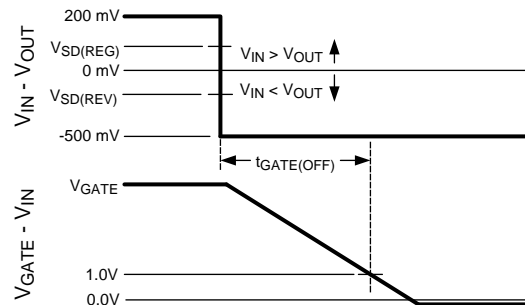

Figure 4. Gate Off Timing for Forward to Reverse Transition
(1) Measurement of V_{GS} voltage (i.e. $V_{GATE} - V_{IN}$) includes $1\text{ M}\Omega$ in parallel with C_{GATE} .
(2) Time from V_{IN} - V_{OUT} voltage transition from 200 mV to -500 mV until GATE pin voltage falls to $V_{IN} + 1\text{V}$. See Figure 4